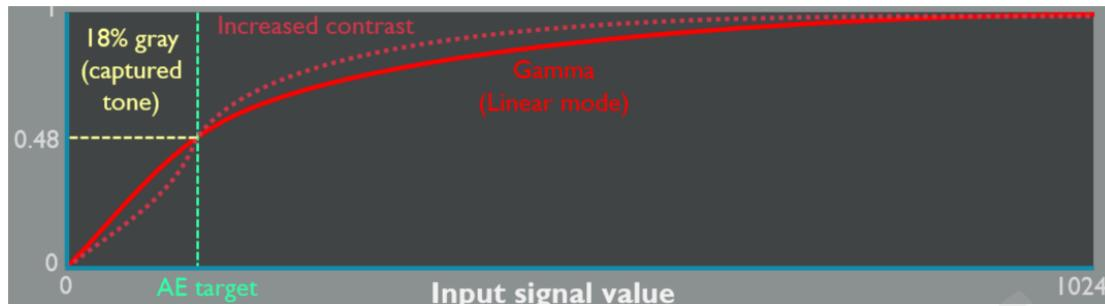

Figure 3.1-4 Correctly tuned AE\_LDR\_Target and contrast alterations
- Adjust the Gamma curve to S-curve, which can effectively improve the contrast. But in the process of adjusting the Gamma curve, it must be ensured that the curve inflection point (the corresponding coordinate of AE\_LDR\_Target on the curve) cannot be changed. If the inflection point is changed, the value of AE\_LDR\_Target needs to be readjusted to ensure the same output value. See Figure 3.1-4 below: